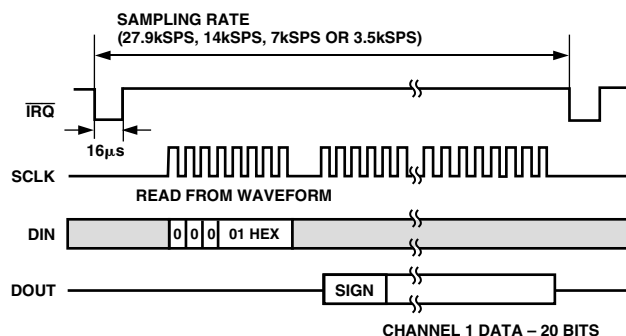
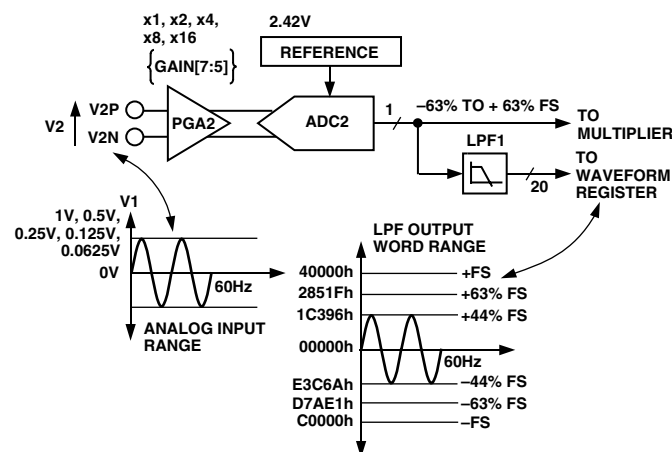

Figure 19. Waveform Sampling Channel 1
Figure 21. ADC and Signal Processing in Channel 2
Figure 21 also shows an analog low-pass filter (RC) on the input to the modulator. This filter is present to prevent aliasing. Aliasing is an artifact of all sampled systems.
When in waveform sample mode, one of four output sample rates may be chosen by using Bits 11 and 12 of the Mode register (WAVSEL1, 0). The output sample rate may be 27.9 kSPS, 14 kSPS, 7 kSPS or 3.5 kSPS—see Mode Register section. The interrupt request output $\overline{IRQ}$ signals a new sample availability by going active low. The timing is shown in Figure 19. The 20-bit waveform samples are transferred from the ADE7756 one byte (8 bits) at a time, with the most significant byte shifted out first. The 20-bit data word is right-justified and sign extended to 24 bits (three bytes)—see Serial Interface section.
Note that LPF1 does not affect the power calculation. The signal processing chain in Channel 2 is illustrated in Figure 21. Unlike Channel 1, Channel 2 has only one analog input range (1 V differential). However, like Channel 1, Channel 2 does have a PGA with gain selections of 1, 2, 4, 8, and 16. For energy measurement, the output of the ADC is passed directly to the multiplier and is not filtered. An HPF is not required to remove any dc offset since it is only required to remove the offset from one channel to eliminate errors due to offsets in the power calculation. When in waveform sample mode, one of four output sample rates can be chosen by using Bits 11 and 12 of the Mode register. The available output sample rates are 27.9 kSPS, 14 kSPS, 7 kSPS or 3.5 kSPS—see Mode Register section. The interrupt request output $\overline{\text{IRQ}}$ signals a new sample availability by going active low. The timing is the same as that for Channel 1 and is shown in Figure 19.
The Active Power signal can be read from the Waveform register by setting `MODE[14:13] = 0,0` and setting the `WSMP` bit (Bit 3) in the Interrupt Enable register to 1. Like the Channel 1 and Channel 2 waveform sampling modes, the waveform data is available at sample rates of 27.9 kSPS, 14 kSPS, 7 kSPS or 3.5 kSPS—see Figure 19.